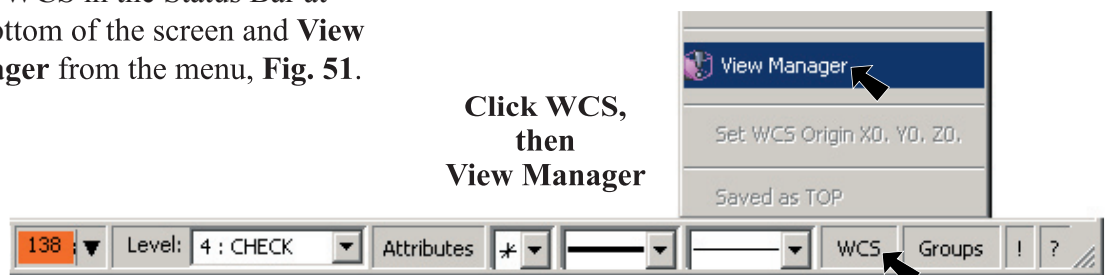

Fig. 51
Step 4. Click **WCS** in the Status Bar at the bottom of the screen and **View Manager** from the menu, Fig. 51.